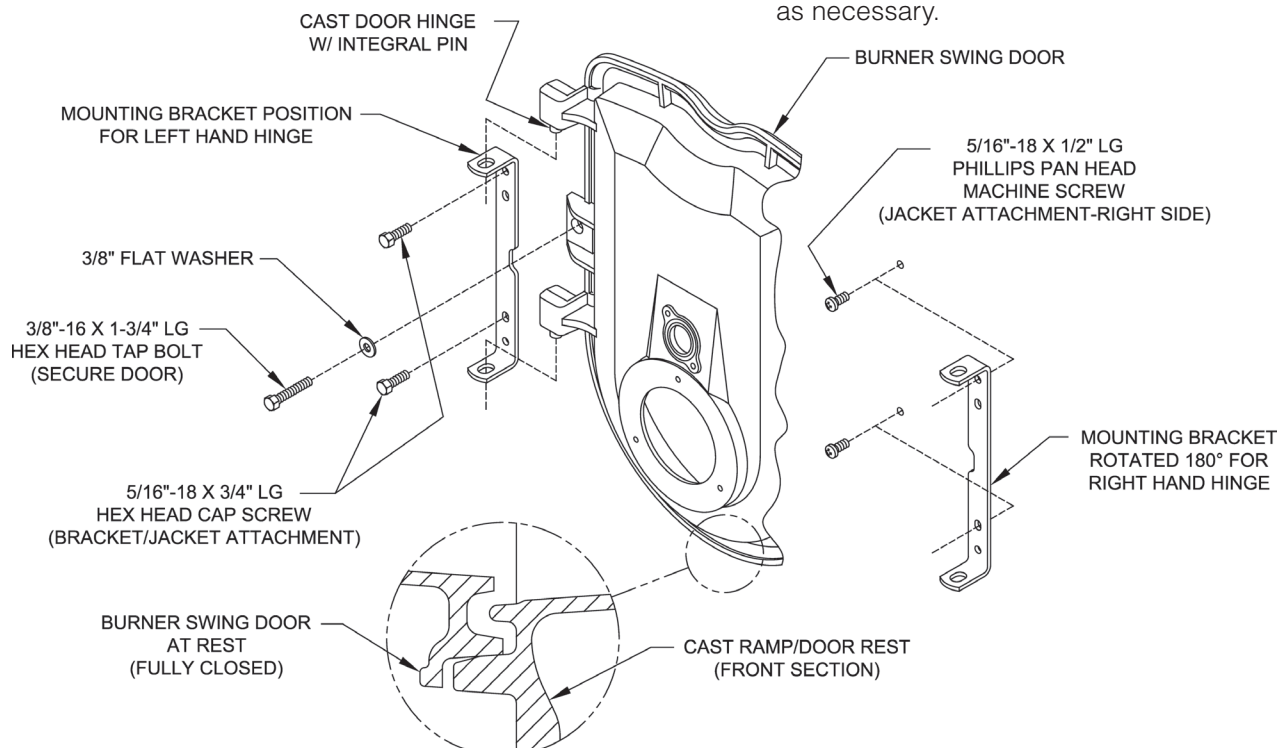

Figure 4A: Partial Front View - Burner Swing Door Mounted to Boiler - Fully Closed and Secured
(see Figures 4A and 4B).
To reverse hinge arrangement (see Figure 4A):
3. To close Burner Swing Door (see Figures 4A and 4B):
Step 2. If necessary, place your right hand under the burner air tube to lift upward. Lift the door up onto the built-in cast ramp/door rest (protruding from the bottom of the front section casting - see Figure 4A).